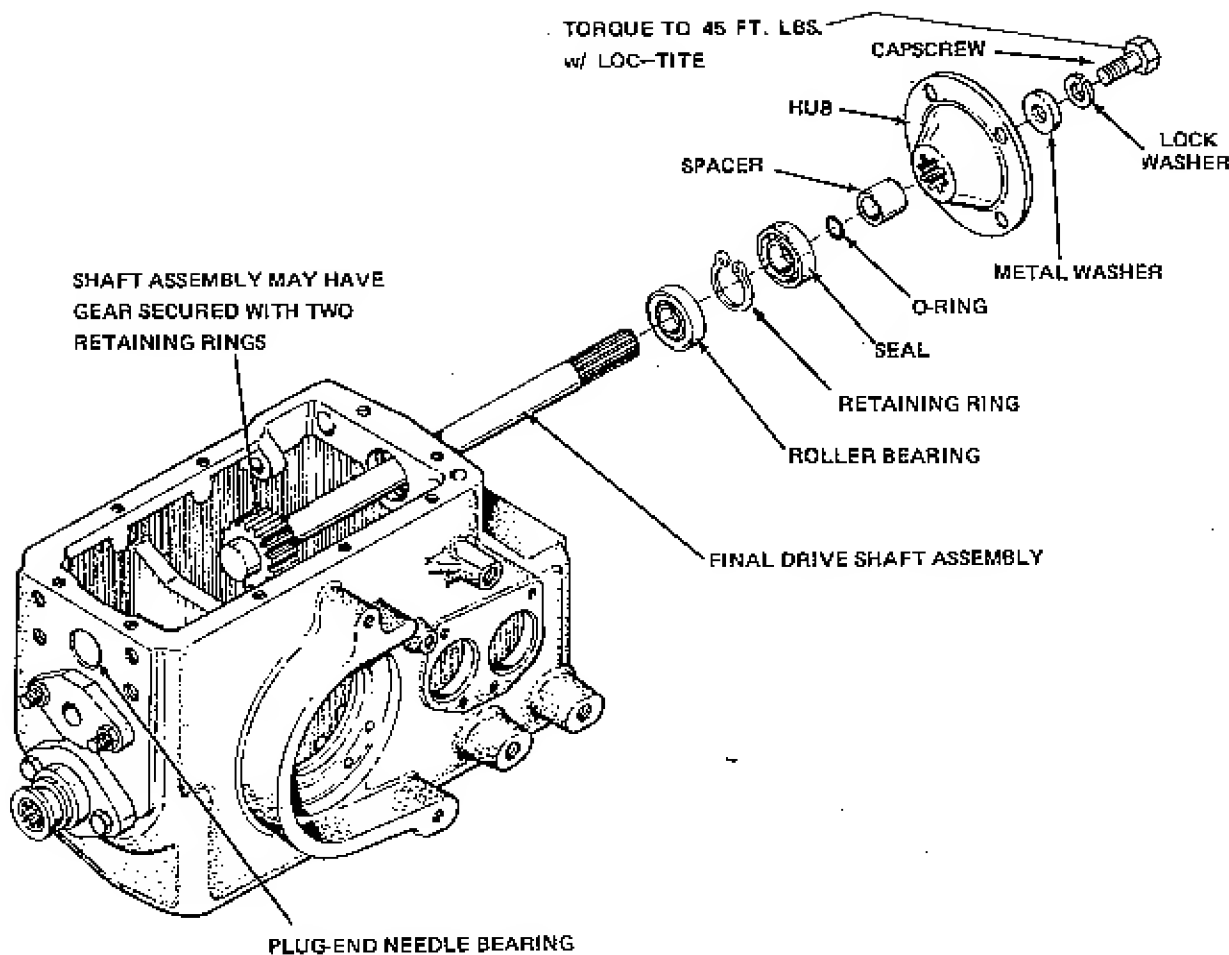

Figure 14. Final Drive Shaft Installation
6. Drive Shaft Assembly Installation (Figure 14).